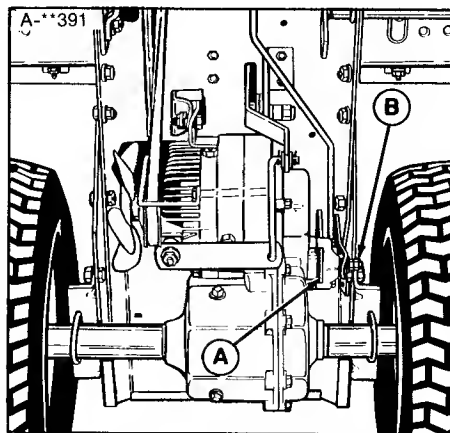

Figure 27. Brake Adjustment
2. Put a feeler gauge just behind brake disc (figure 27). Clearance between disc and pad should be 0.010 inch (0.254 mm). If not, tighten or loosen the adjustment nut (B) to achieve correct dimension. Some units are equipped with two nuts. If so, loosen the outer nut, adjust the inner nut as necessary, then tighten outer nut.